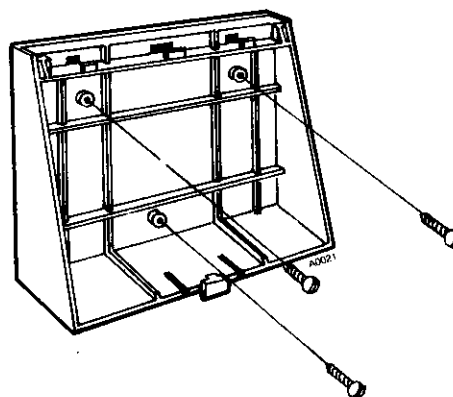

Figure 1 SECURING WALL MOUNTING BRACKET, EK-616
- *Secure wall mounting bracket on wall in desired location with three screws (Figure 1).*